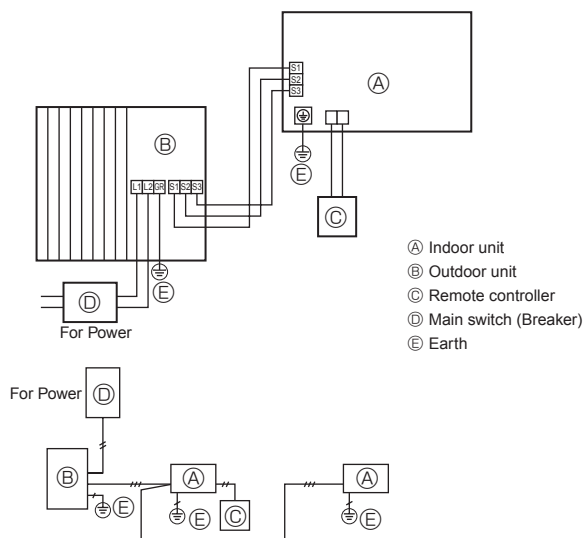
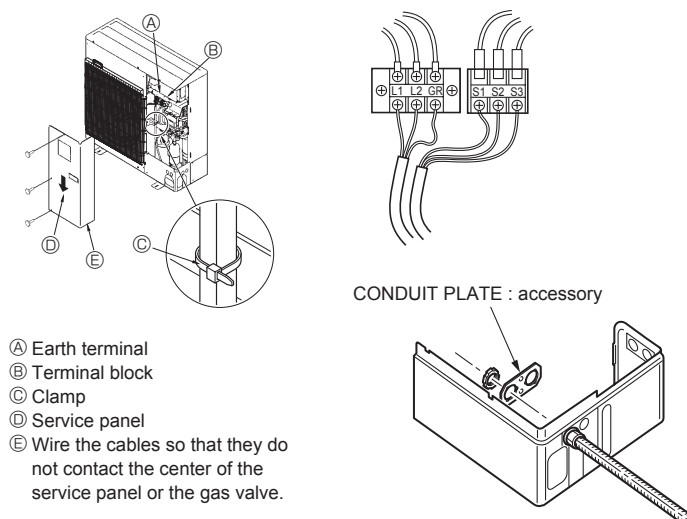

Fig. 6-1
Fig. 6-2
### 6.1. Outdoor unit (Fig. 6-1, Fig. 6-2)
- ① Remove the service panel.
- ② Wire the cables referring to the Fig. 6-1 and the Fig. 6-2.